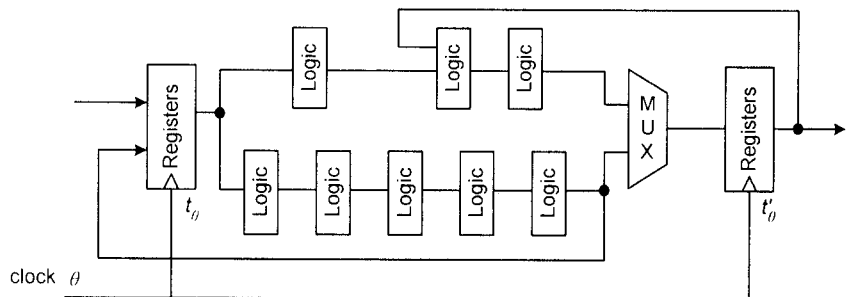

Figure 4.1
4. a) For the circuit in *Figure 4.1*, assume a unit delay through the register and logic blocks (i.e., $t_{R1} = t_{R2} = 1$). Assume that the registers, which are positive edge-triggered, have a set-up time t_{SU} of 1. The delay through the multiplexer t_M equals $2 t_R$.